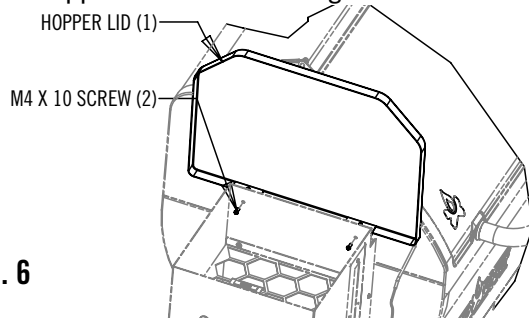

FIG. 6
1. Install hopper lid as shown in Fig. 6.